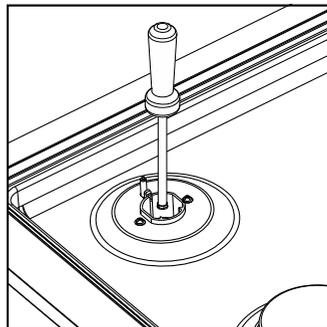

Fig. 1
- 4 Unscrew the injectors (save for future use) and replace them with the correct ones (size numbers are stamped on the side, eg 70= 0.70 mm). See Fig. 1.